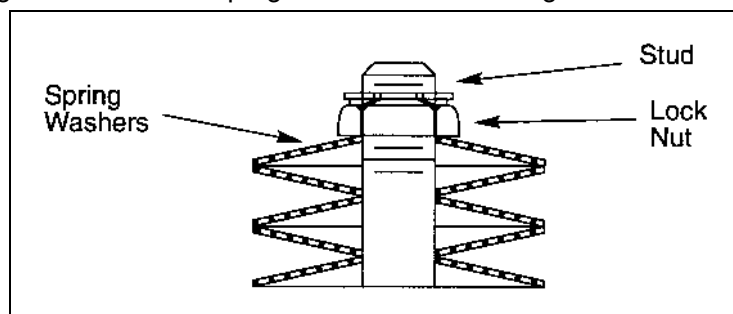

Figure 5 – Spring Washer Detail
5. Place the spring washers on the plug stud as shown in Figure 5.